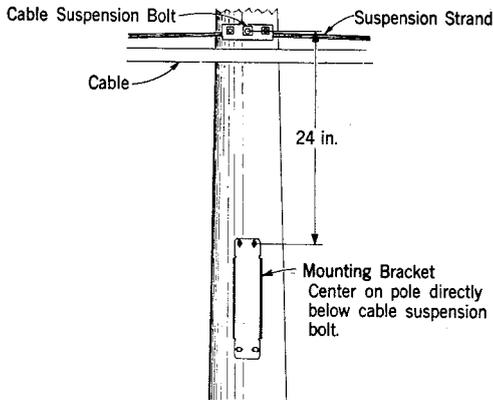

Fig. 17—Preferred Location of Mounting Bracket on Pole
4.01 Where possible locate the terminal mounting bracket on the cable side of the pole as shown in Fig. 17. If the bracket cannot be placed at the preferred distance of 24 inches below the suspension strand, locate it in accordance with Fig. 18 through 20.